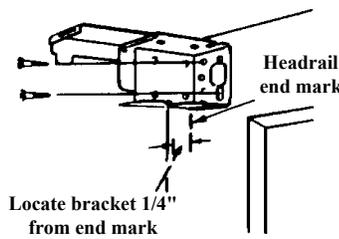

Fig. 7
- Typical installations for outside mounts are to the window frame, or wall (fig. 7) or to the ceiling (fig. 8) through the top parallel screw holes.